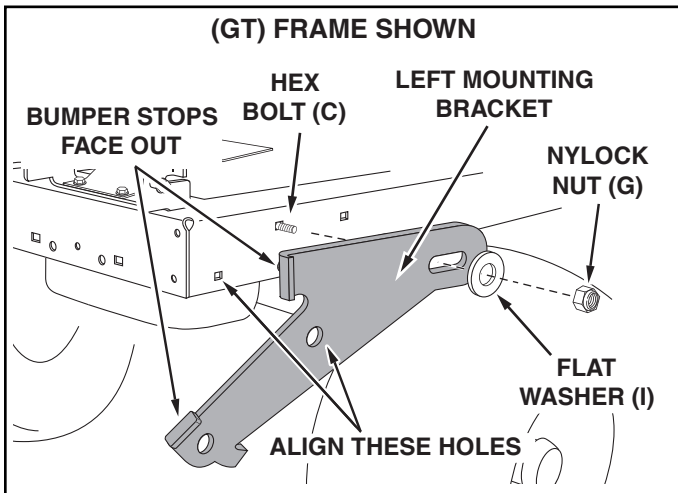

FIGURE 4
STEP 3: (SEE FIGURE 4)
- Attach left mounting bracket to hole shown in left side of tractor frame using a hex bolt (C), flat washer (I) and nylock nut (G). Align middle hole in bracket with empty hole in tractor frame. Tighten nylock nut (G) only enough to keep bracket in alignment until step 4. Repeat for right mounting bracket.